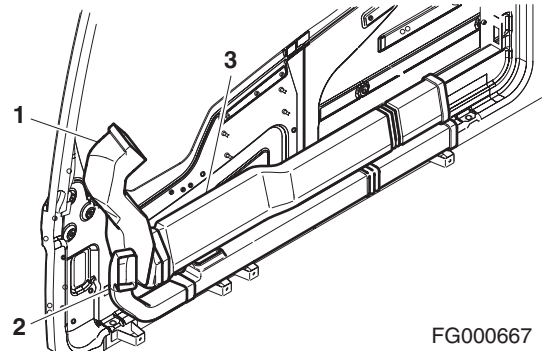

Figure 3
16. Remove air duct (1, 2 and 3, Figure 3) at right side of cabin. Disconnect duct wiring connector before removing duct (2).